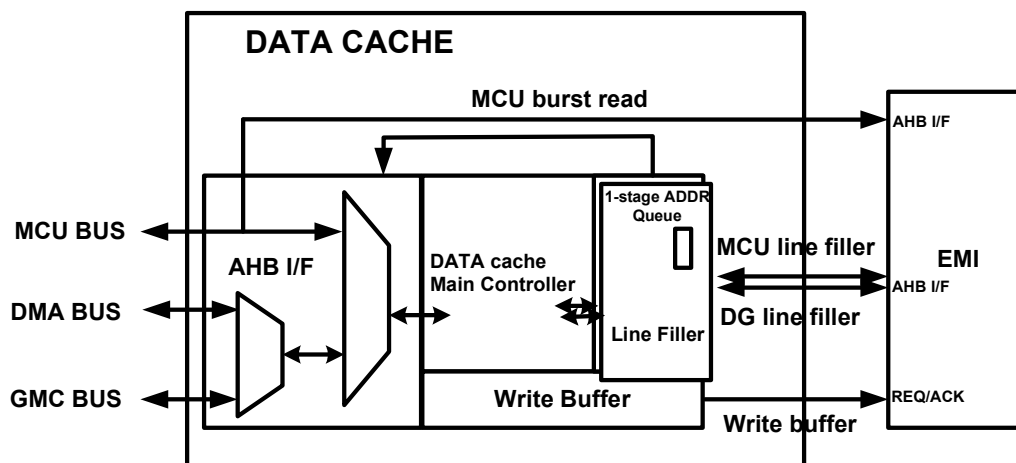

Figure 24 Data Cache Architecture
The data cache comprises four parts: the AHB interface, the main controller, the line filler, and the write buffer (**Figure 24**).
The data cache is specially optimized for MCU code execution, thus the user is recommended to set only code and read-only (RO) data as code cache cacheable (refer to the Code Cache section for the definition of a cacheable region). For regions of cacheable memory, requests are forwarded directly to the EMI through the “MCU burst read” path (**Figure 24**). The requests can be accepted before write buffer is flushed, shortening access latency.